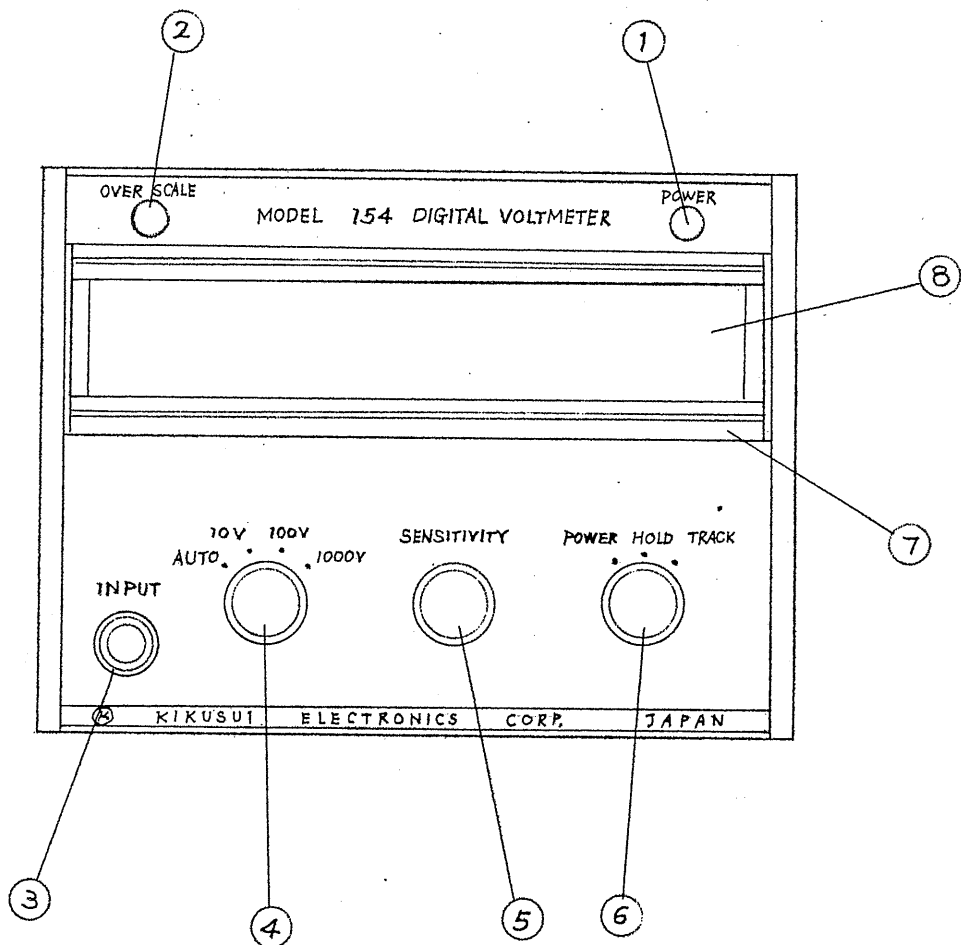

Fig. 3-1
3.1 Explanation of Panel (Refer to Fig. 3-1)